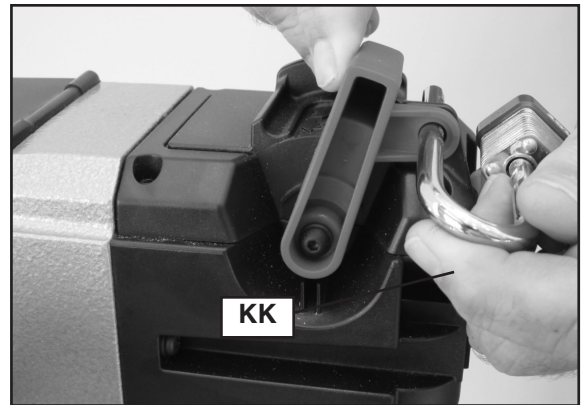

Fig. 23
**IMPORTANT:** When the machine is not in use, the switch should be locked in the "OFF" position to prevent unauthorized use, using a padlock (KK) Fig. 23 with a 1/4" (6.4 mm) diameter shackle.